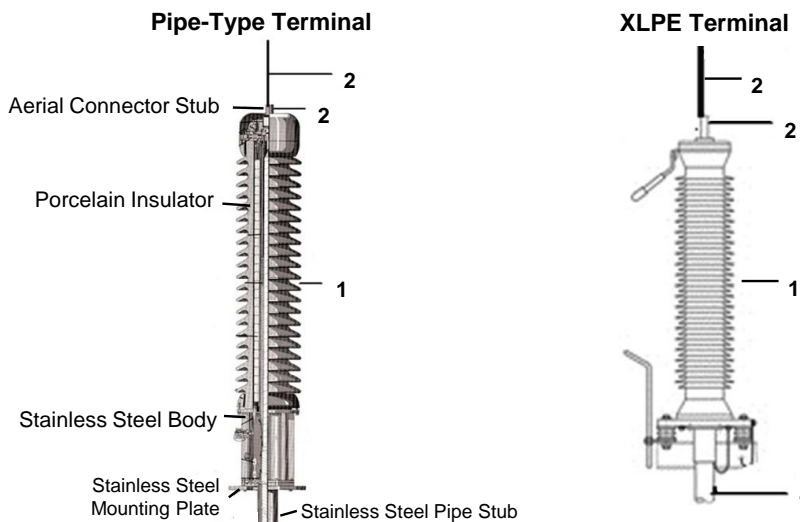

Figure 1. Pipe-Type and XLPE Terminals
- 3 Temperature taken at underground cable terminals is illustrated in Figure 1 below: Location 1 is an indirect reading; Location 2 is a direct reading.